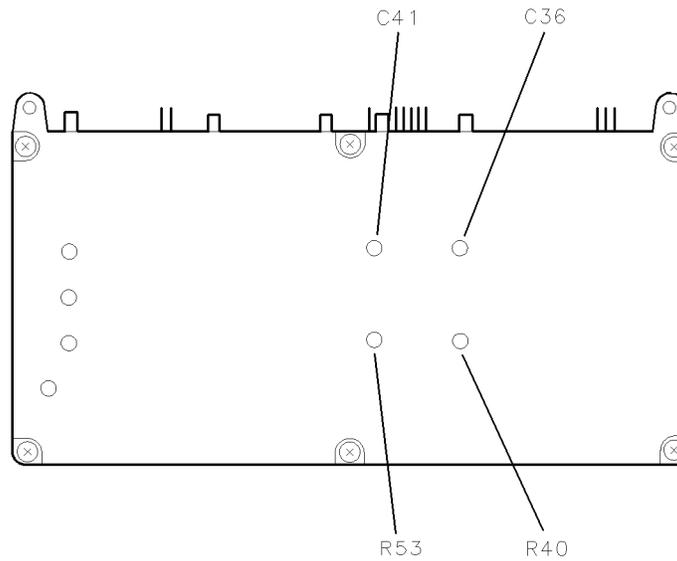

Figure 6-12. Locations for Adjustment 06. 300 MHz Reference Output Amplitude
3. The output circuits are peaked for maximum signal at 300 MHz. A4A1 300 MHz amplifier (C41) tunes the 300 MHz 1 output circuit and A4A1 300 MHz amplifier (C36) tunes the 300 MHz 2 output circuit. Refer to Figure 6-12 for the location of these components.
4. The power out of each rear panel, 300 MHz jack is set to 0 dBm \pm 0.1 dB. A4A1 300 MHz amplifier (R53) adjusts the power out of the 300 MHz 1 jack. A4A1 300 MHz amplifier (R40) adjusts the power out of the 300 MHz 2 jack. See Figure 6-12 for the location of these components.